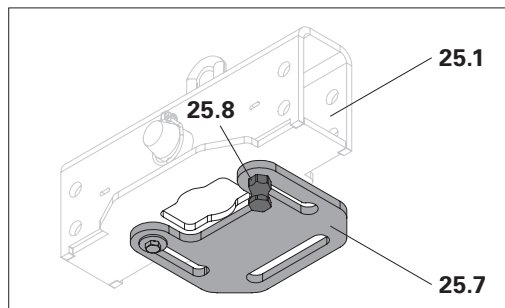

Fig. B5.01
2. Pull the Cotter Pin 4/1 ga (124) and filler pin 21x120 (123).
3. Fly out the main beam and place next to the lifting and lowering cylinder (2).
5. Loosen the threaded bolts (25.8), pull out the slide plate (25.7) and secure with threaded bolts (25.8). (Fig. B5.01)